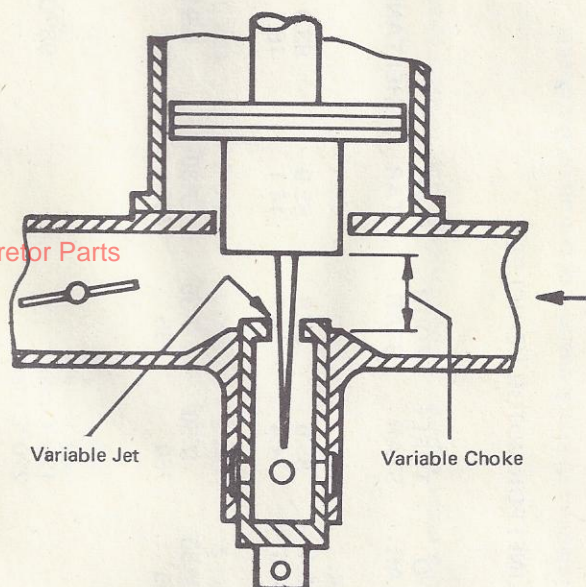

Fig.3 – Elementary Variable Choke System
2.5. Variable Choke System (Fig. 3)